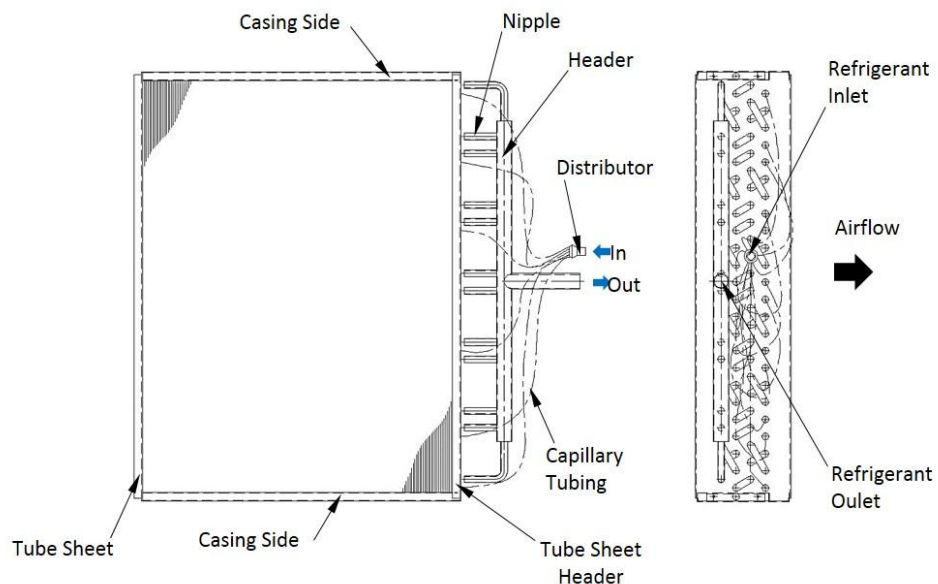

Fig. 1
The Number of Circuits (5) is the number of Nipples in each Header (See Fig.1).